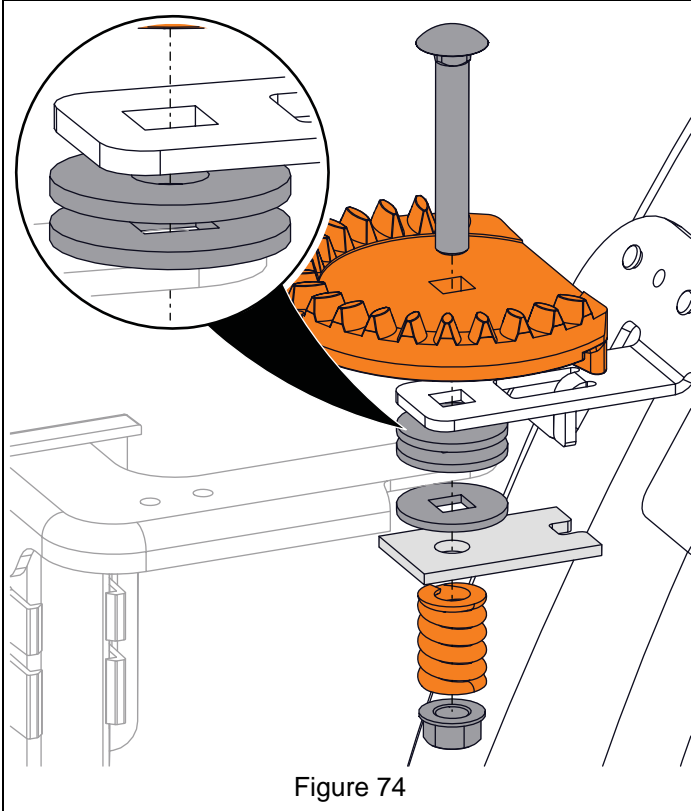

Figure 74
See Figure 74.
**IMPORTANT:** Friction washer and flat steel washer may remain in original positions. See detailed view in Figure 74.